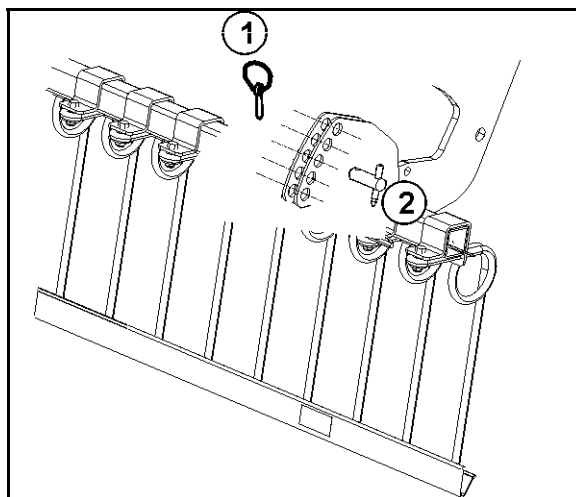

Fig. 40
2. Release the clip pin (Fig. 40/1).
3. Secure the adjusting pins (Fig. 40/2) in the desired position.